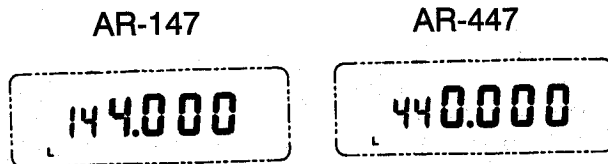

Fig 1.
2. Turn on the Power Supply and then turn on the transceivers **PWR** switch. The display should indicate a frequency. Fig.1 shows examples of frequencies that will appear on the various models. In addition to the frequency you may see one or more control indicators illuminate on the display.